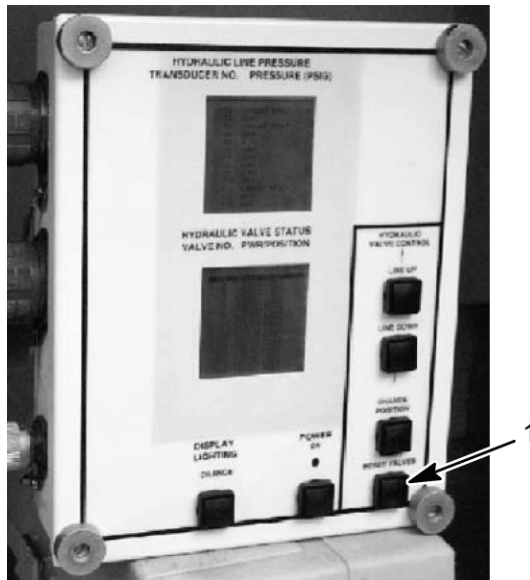

Figure 6. HDC Control Box
- Reset all HDC solenoid valves by selecting the RESET VALVES button (Figure 6, item 1) on the HDC control box.